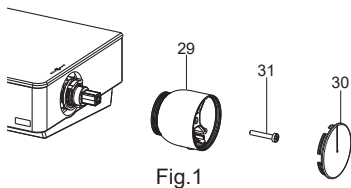

Fig.1
拆卸前确保温控把手(29)上的按钮垂直朝下。取下把手上盖(30)，用螺丝刀取出螺钉(31)，卸下温控把手(Fig.1)。
Before your action, ensure the button on the temperature handle(29) is downward vertically. Remove the plug(30). Remove the screw(31) with a screwdriver. Take out the temperature handle(Fig.1).